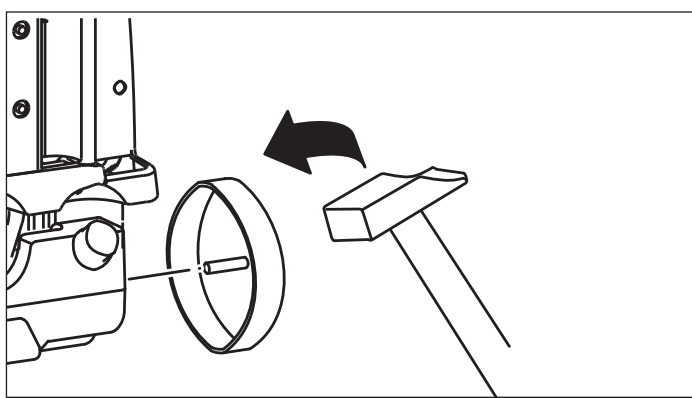

Figure 3
6. Assemble second wheel to axle (Figure 3).